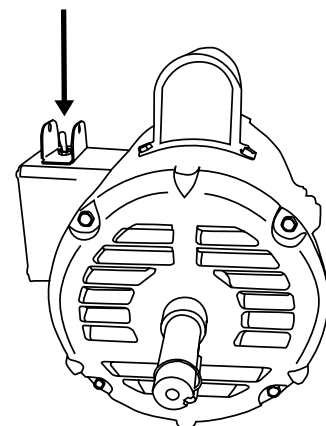

Fig 6. Electric Motor ON/OFF Switch
5. Set the electric motor's **ON/OFF** switch (Figure 6) to the **ON** position.